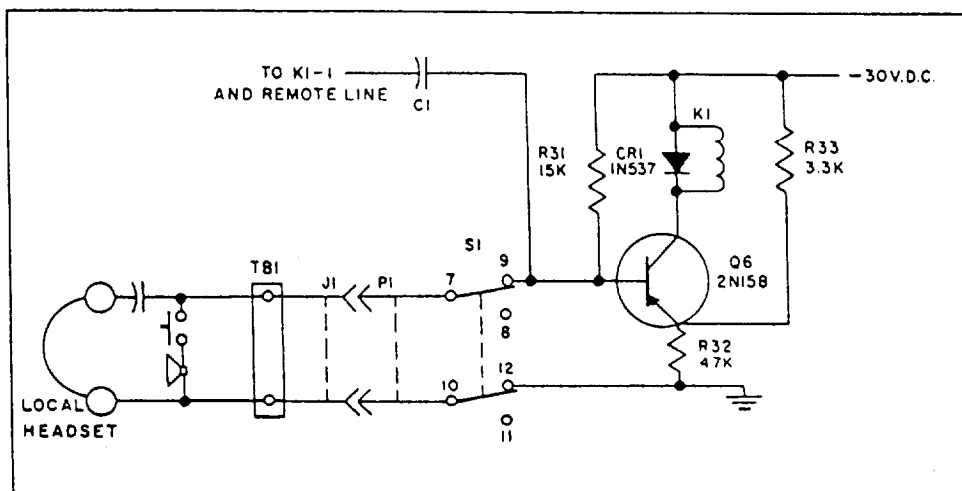

Figure 5-17.—Switching circuit of AM-2210/WTC.
**SWITCHING CIRCUIT.**— Figure 5-17 is a functional representation of the K1 switching circuit, showing K1 in an energized and operated condition. The receiver element of the local headset-chestset is in series with a dc blocking capacitor, thereby presenting a high resistance when the talk switch is open. Closing the talk switch connects the headset across the line, giving the headset a dc resistance of approximately 4.8 ohms. It is the function of the switching circuit to sense this change from high impedance to low resistance that takes place with the depression of one of the six headset-chestset talk switches.